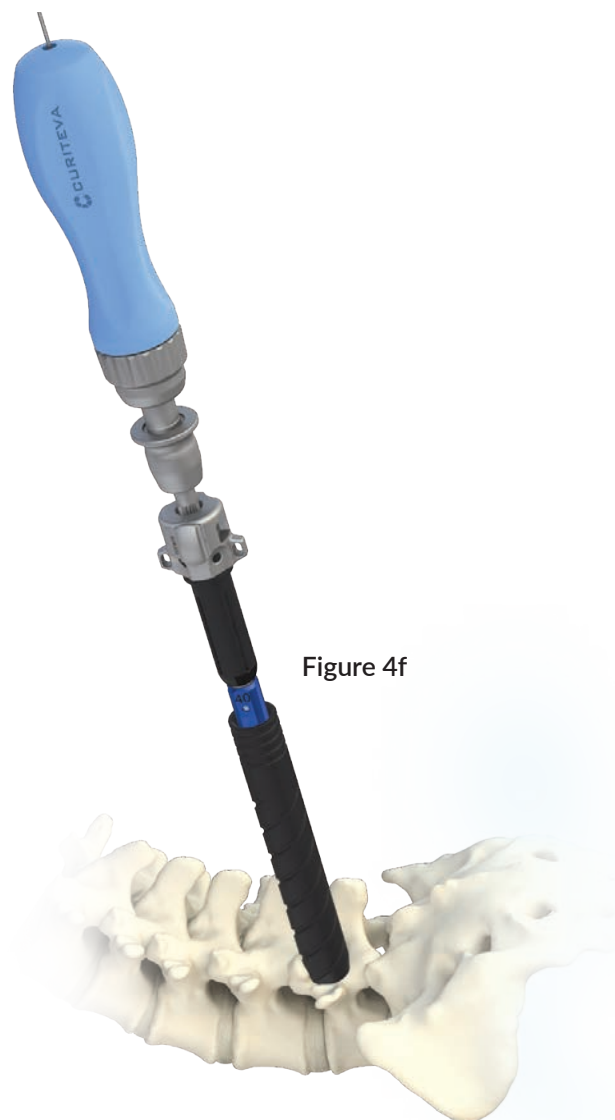

Figure 4f
- Ensure the chosen ratcheting handle is in the forward position and drive the MIS Pedicle Screw into the prepared pedicle over the K-Wire to the desired depth. **(Figure 4f)**